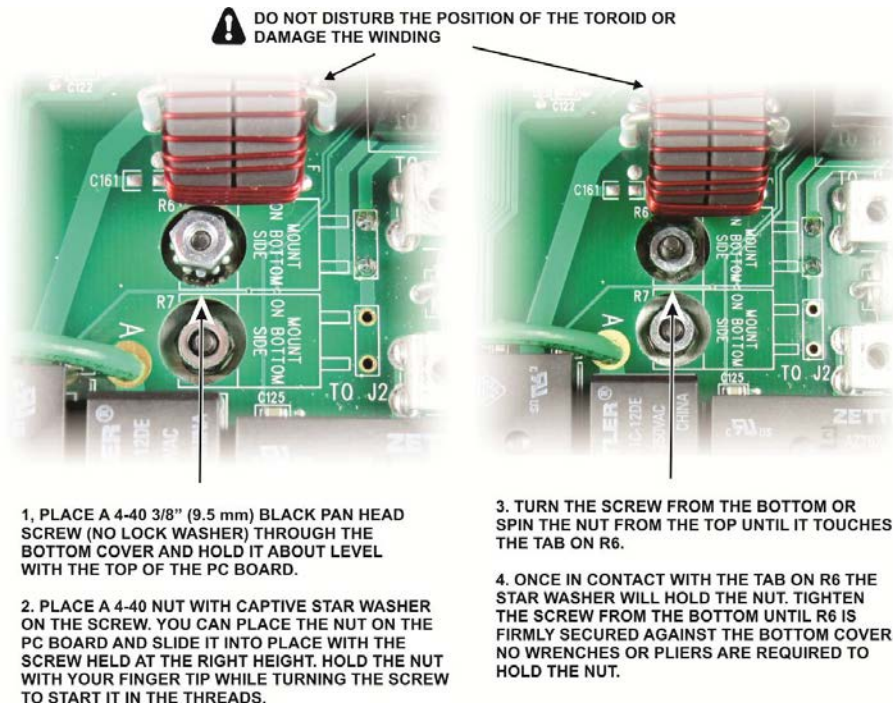

Figure 20. Install the R6 Mounting Hardware.
- Turn the assembly over so the pc board is on top and install the R6 mounting hardware as shown in Figure 20 to secure R6 against the bottom cover.